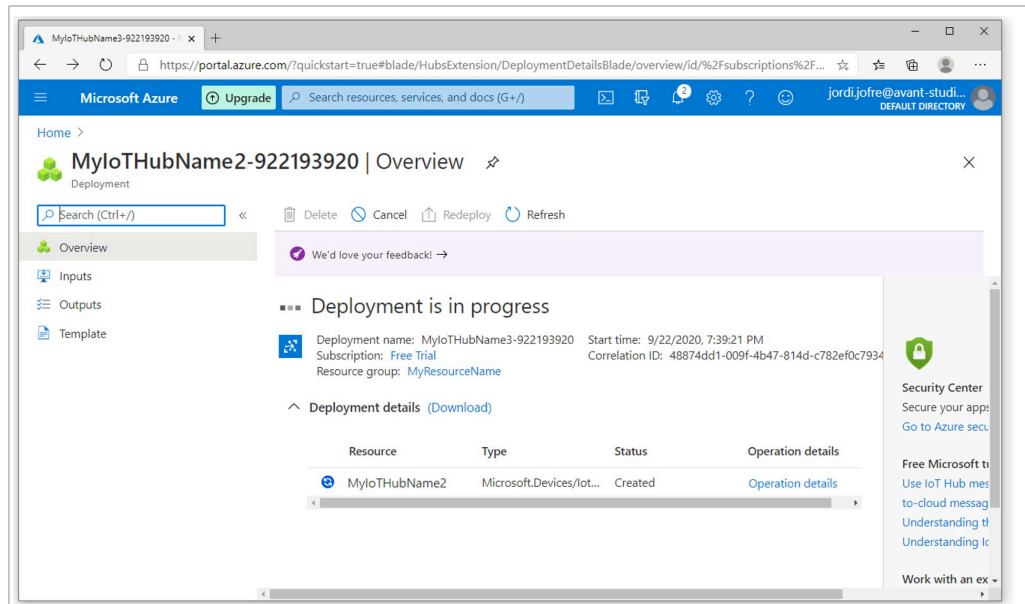

Figure 49. Create an Azure IoT Hub completion
- 6. When the Azure IoT Hub instance is deployed, you can see the deployment details and go to the recently created Azure IoT Hub resource as shown in Figure 49: